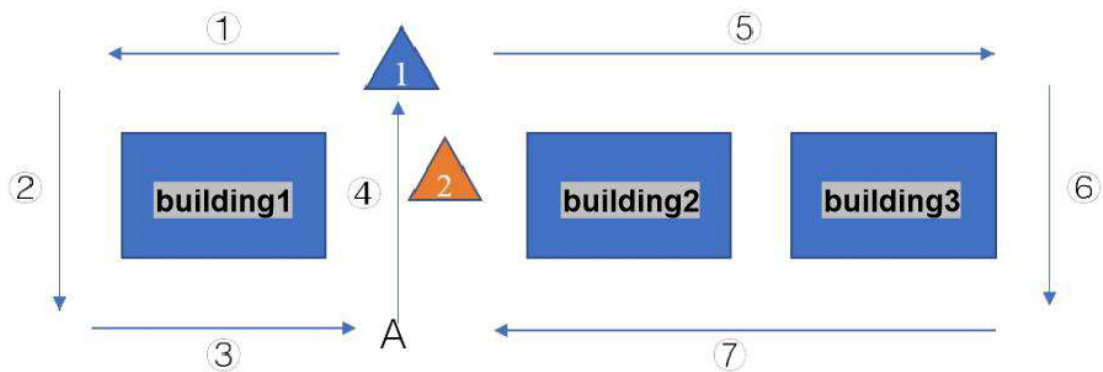

Figure 3-1 Closed-loop path
As shown in Figure 3-1, buildings 1, 2 and 3 are the objects to be scanned. It is recommended to start scanning from 1 rather than 2. Before you start scanning, plan your scanning route. According to the above rules, the route you can take to scan in this scenario is ①②③④⑤⑥⑦ or ⑤⑥⑦④①②③.